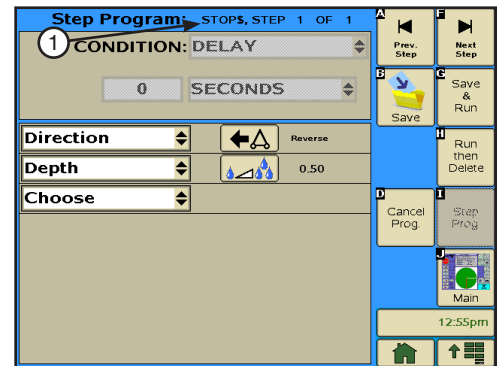

Figure 169-2 1. STOP\$ Program Identifier
5. Select the **Stop Command** field and choose a different command. Refer to Figure 169-2.